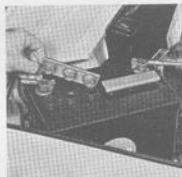

Fig. 1-19. Battery
1. Check that electrolyte level in battery is about 5 mm (3/16") above the plates (see Fig. 1-19). If necessary top up with **distilled** water. Also check that the battery and battery terminals are secure.